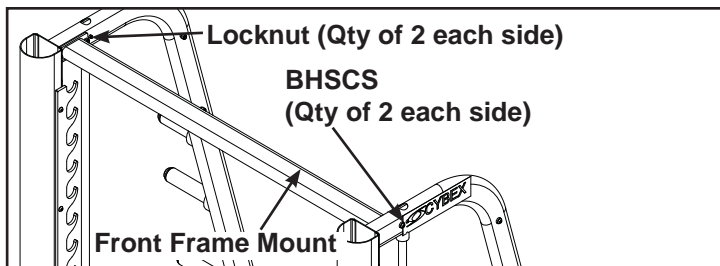

Figure 2
- C. Align front frame mount in place. See Figure 2.